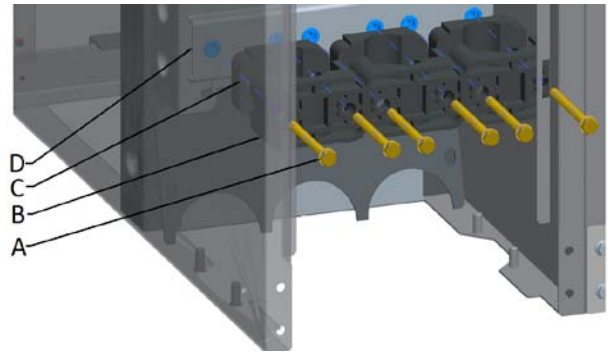

Figure 22: Assembly of the bottom panel
- Unscrew, for every cable support (Figure 22 B+C), the hexagonal tap bolts (Figure 22 A) to allow disassembly of the two-piece cable support.
Depending on the size of the diameter of the cable, it might be necessary to disassemble the cable support entirely (Figure 22 D.)